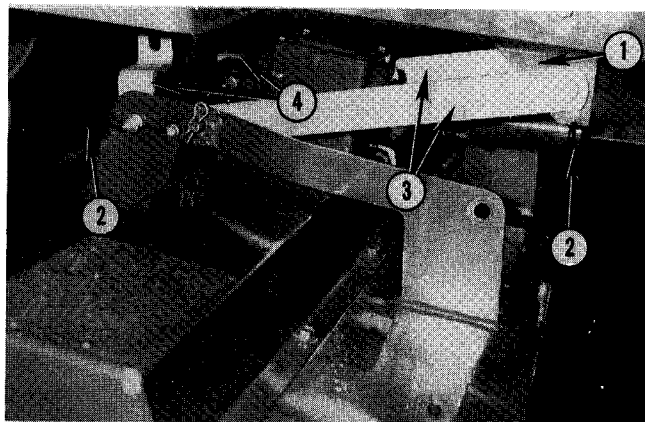

Fig. 52 — Mower Installation
2. Start Tractor engine, lower hanger straps No. 4 Fig. 52 and then shut off engine.
3. Attach lift arms, No. 3, Fig. 52, to anchor plates, No. 1, and hanger straps No. 4, to mower. Secure in place with spring link retainers, No. 2.